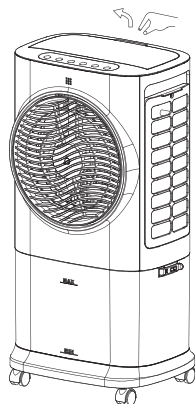
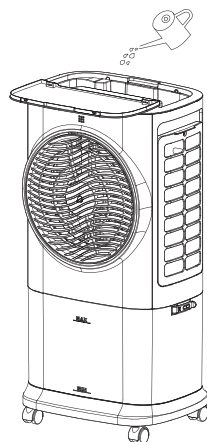

Figure 1
Figure 2
- Firstly open the water filling panel on top of the Air Cooler and slowly add water into the water tank (Figure 1 and Figure 2).